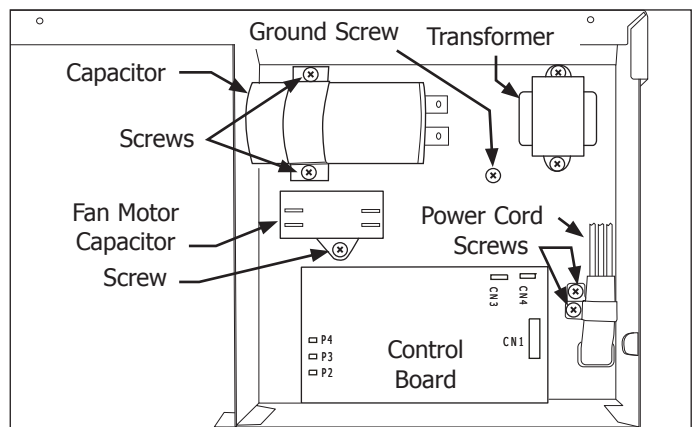

Figure 4-77.
4. Extract the screws securing the retaining band to bottom of control box. (See Figure 4-77)